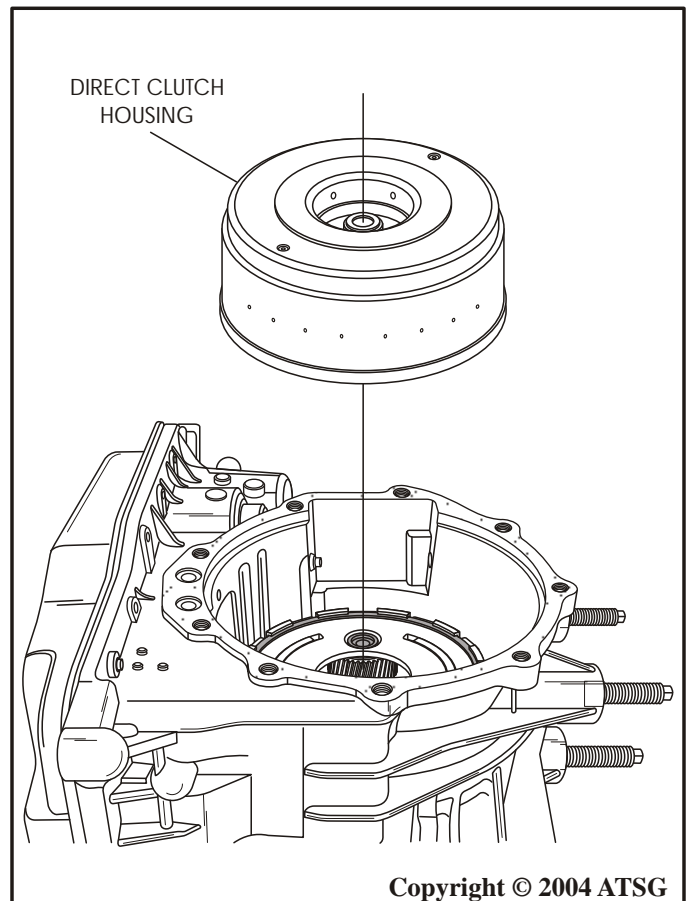

Figure 29
16. Remove the direct/reverse clutch housing from transaxle, as shown in Figure 29.